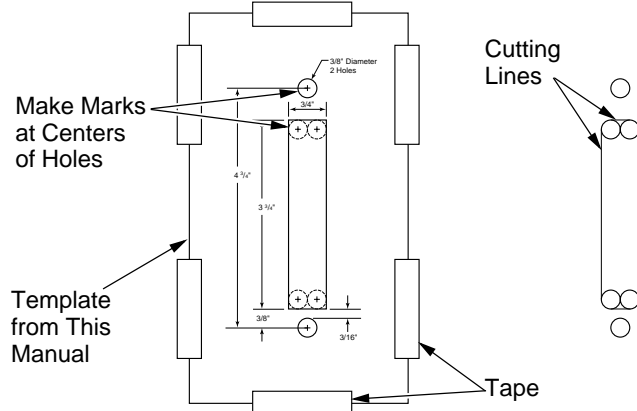

Figure 10 - Using Template for Wall Switch Installation
10. Using a straight edge and pencil, connect the outer edges of the 4 holes for the rectangle (see Figure 10). This will give you cutting lines for the rectangle you will cut in the wall.
10. Using a straight edge and pencil, connect the outer edges of the 4 holes for the rectangle (see Figure 10, page 10). This will give you cutting lines for the rectangle you will cut in the mantel wall.